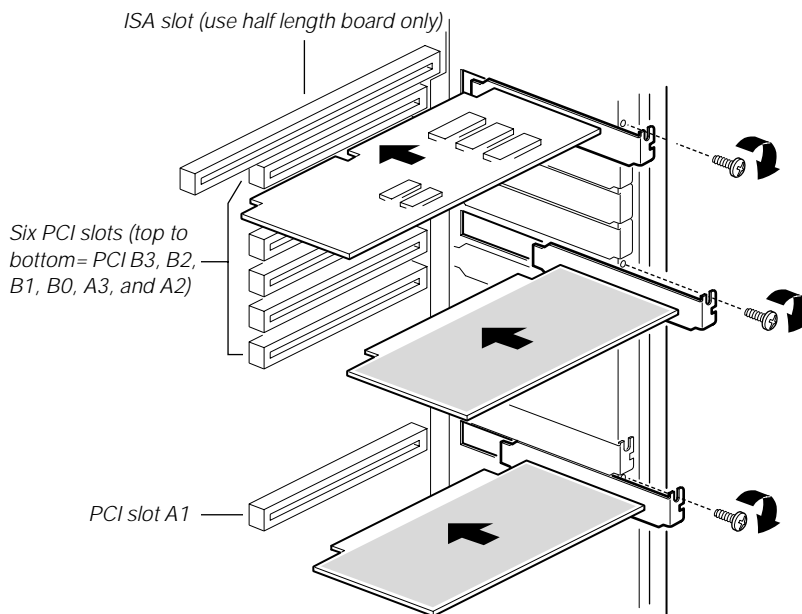

Figure 26: Installing an Expansion Card
5. Remove and save the expansion slot cover (Figure 26).